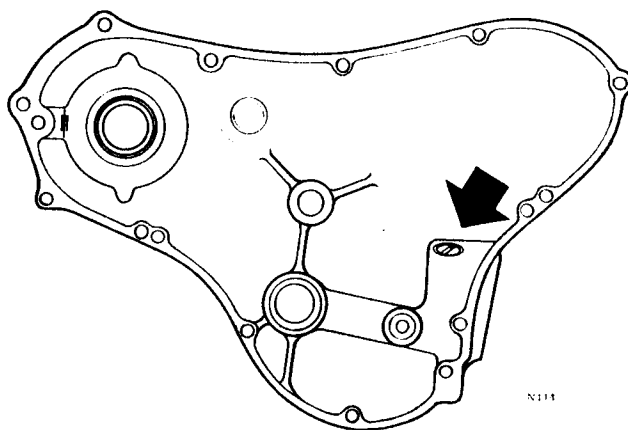
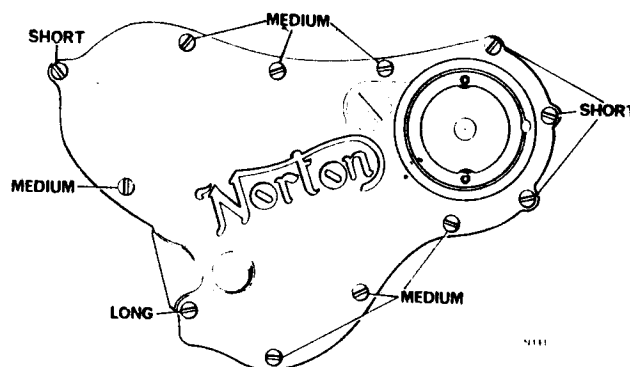

Fig. C31 Showing blanking plug in position in timing cover
Fig. C32 Positions and lengths of odd timing cover screws
Where a new timing cover is being prepared for fitting, check that the blanking plug shown in Fig. C31 is in position. The timing cover odd screw lengths are shown in Fig. C32.
The timing cover should be prepared by washing very thoroughly in clean gasoline (petrol) and if necessary by renewing the oil seals as described in Section C26. If a new timing cover is to be fitted, check that the blanking plug is fitted into the boss for the pressure relief valve. This feature is shown in Fig. C31.
- 3 Fit the timing cover screws. The odd screw lengths are shown in Fig. C32 but the remaining screws are all of the same length. Secure the set of screws.